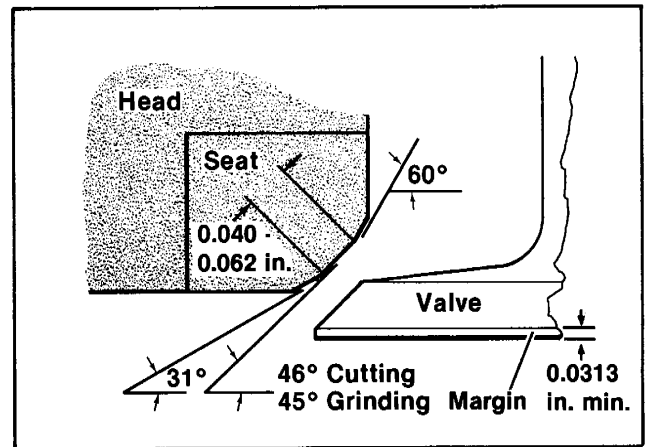

Figure 3-12. Valve Seat Angles
See Figure 3-12. The valve seats may be refinished with cutters or grinders. Cut seats to 46°, grind seats to 45°. Valve seat tools and fixtures are available commercially. Seat each valve in same port from which it was disassembled.
- See Figure 3-12. Use bluing or magic marker and check the contact pattern on the valve face. It should be 0.040 - 0.062 in. wide and 2/3 the way towards the outside edge of the face.